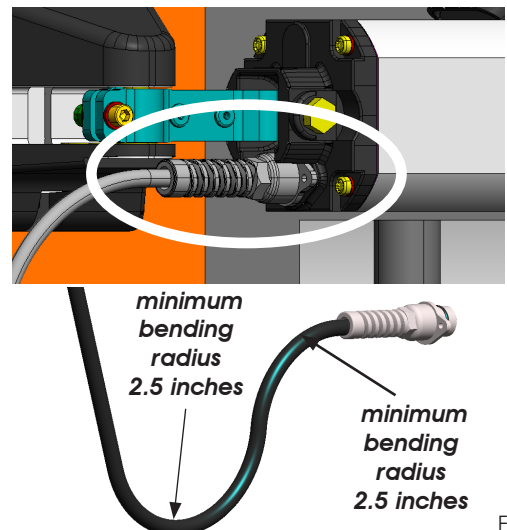

Fig. 17
18. Connect the cable to the operator using the two screws supplied, as shown in Fig. 17. Push the cord by hand, then tighten the screws